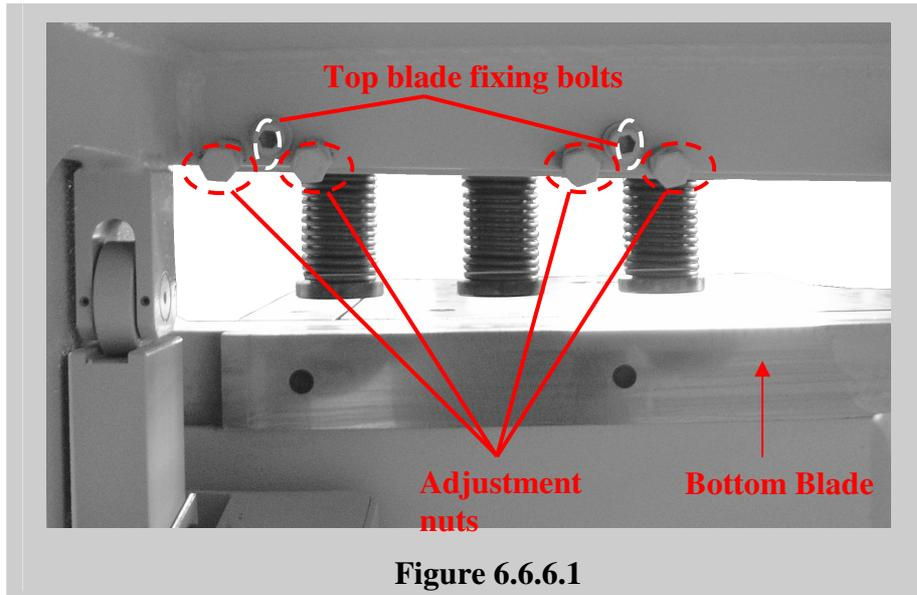

Figure 6.6.6.1
- Take out all blade fixing bolts (11-25 in **spare part list** and see in **Figure 6.6.6.1** below), EXCEPT one bolt on each of the edges. Slightly loosen these bolts on the edges.
- Take out all blade fixing bolts (see in **Figure 6.6.6.2**) under the table in front of the machine, EXCEPT one bolt in the middle.